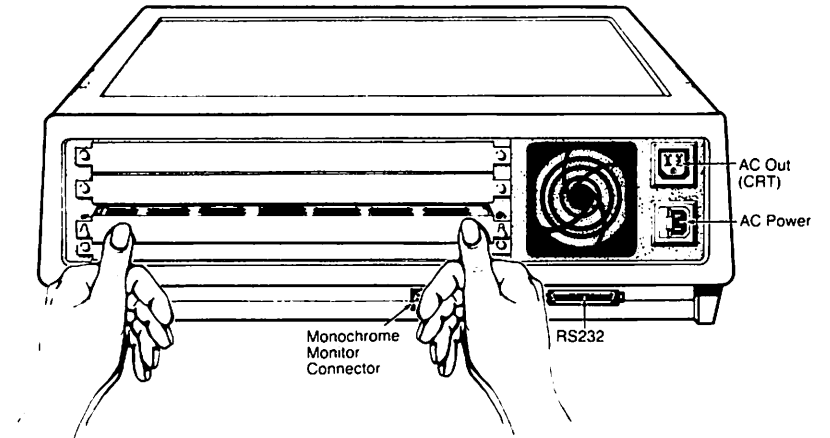

Figure 6
7. Then apply steady, equal pressure to both edges of the panel (near the buttons) to push the pan all the way in and “seat” the connector. Push the buttons in to lock the board into position. (See Figure 6.)